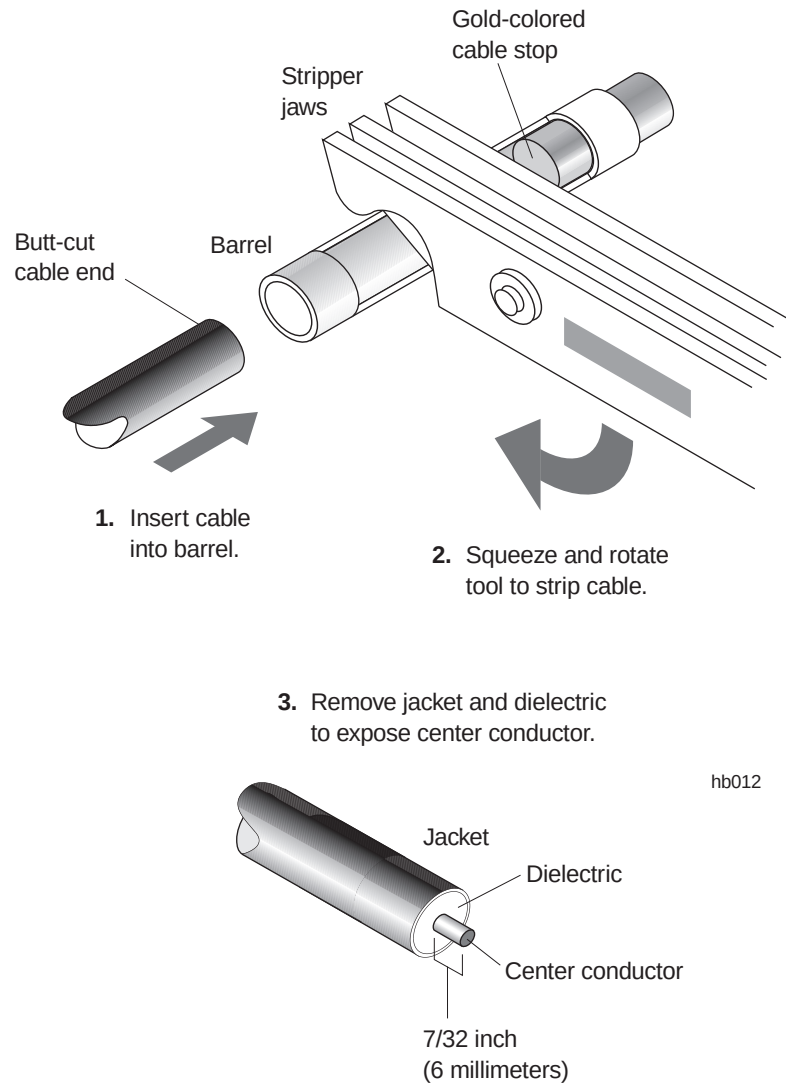

Figure C-3 Using the spin-stripping tool to expose the center conductor
4. Use the spin-stripping tool (Excelta CX 1–78–1, gold color-coded) to remove the cable jacket and dielectric, leaving about 7/32 inch (6 millimeters) of the center conductor exposed, as shown in figure C-3.
- a. Open the stripping jaws of the spin-stripping tool enough to allow the cable end to enter the cable barrel fully. (See figure C-3.)
- c. Rotate the tool around the cable two or three times until the outer cable jacket and dielectric are completely cut through, but *do not score the center conductor*. Rotate the tool in the direction indicated in figure C-3.